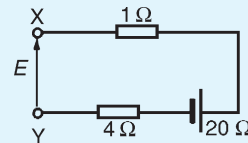

Figure 13.95
11. The open-circuit voltage  $E$  across terminals  $XY$  of Fig. 13.95 is: